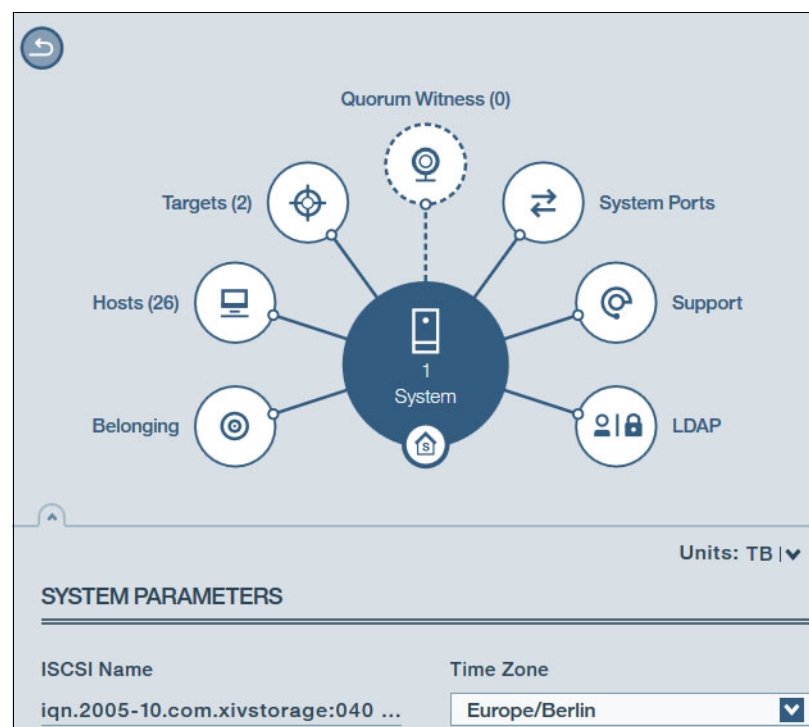

Figure 1-22 Retrieving the iSCSI name (IQN)
3. Click in the circle that represents the system (see Figure 1-22) to display the System Properties. Scroll down in the System Properties to find the iSCSI name under System Parameters.